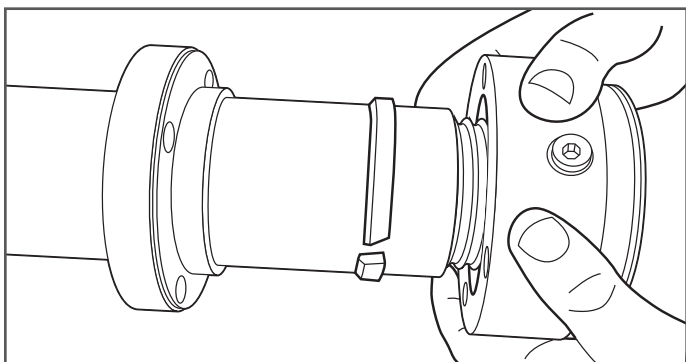

Figure 8-7
7. Remove middle section of DoubleTrac® fitting (Figure 8-7).